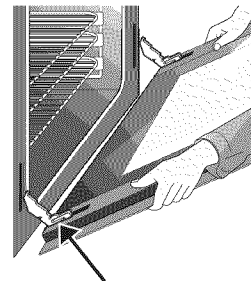

Figure 33: Holding door for removal
4. Keep pulling the bottom of the door toward you while rotating the top of the door toward the appliance to completely disengage the hinge levers (Figure 33).
1. Firmly grasp both sides of oven door along the door sides. Do not use the oven door handle (Figure 33).
2. Holding the oven door at the same angle as the removal position, seat the hook of the hinge arm over the roller pins located on each side of the oven door frame (Figure 33). The hook of the hinge arms must be fully seated onto the roller pins.